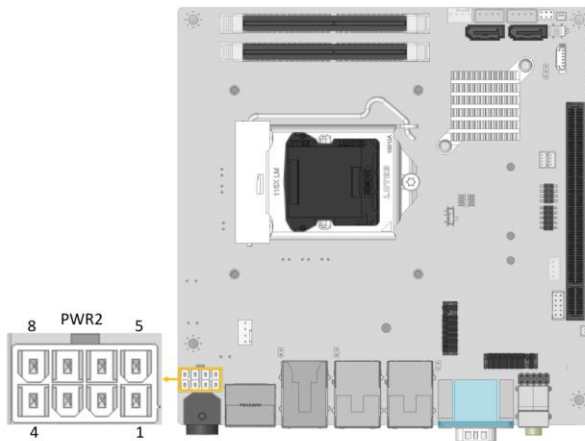

Figure 3-11: Internal Power Connector Pinout Location
- CN Location:** See **Figure 3-11**